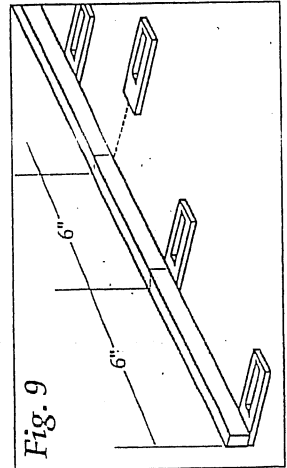

Fig. 9
8) Take the other  $1/4 \times 1/2 \times 24$ " clamping rail. Beginning at one end, draw a center line every 6" (see fig. 9). Take the small walnut slides  $1/8 \times 1 \times 1-1/2$  (part 6) and draw a center line on each. Match up the center lines and glue them to the rail. Make sure they are square and that the slots line up exactly with the slotted pieces you've already glued onto the baseboard.